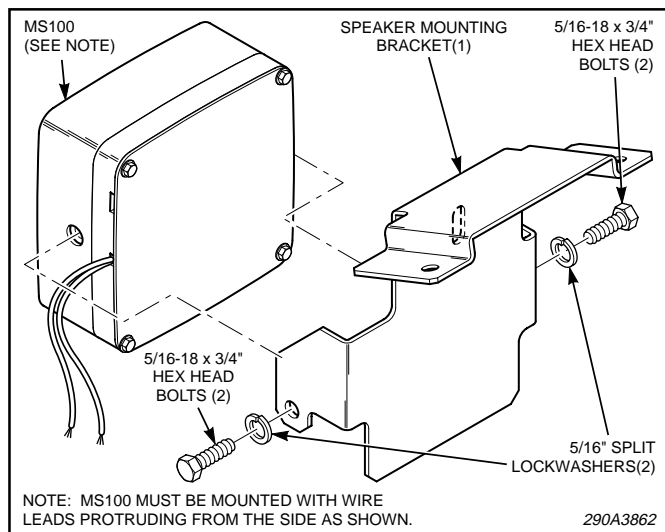

Figure 1.
1. See figure 1. Assemble the speaker mounting bracket to the speaker using the bolts and lockwashers supplied. Position the back of the speaker parallel with the bracket's vertical back wall, and tighten the 5/16-18 x 3/4" bolts securely.